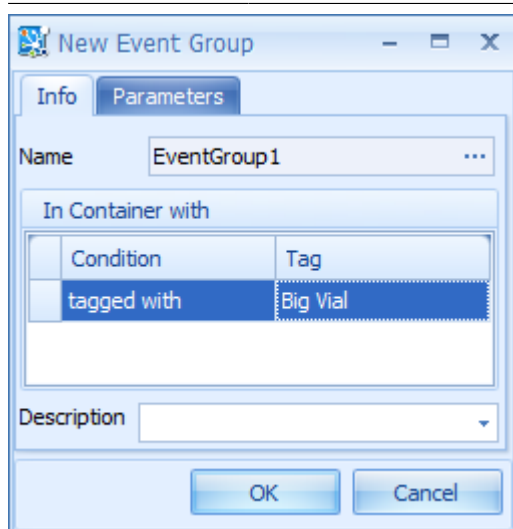

Figure 25.21. New Event Group window
A window named "New Event Group" will open (see Figure 25.21). Then proceed with:
3. After this, you will be asked to enter a container tag for your condition, where you can select from available tags in a combobox. In our example project, select `BigVial` as a `New match tag condition`. This will make the event group effective for the entire spatial structure you created above. Compare what you see on your screen with Figure 25.21.